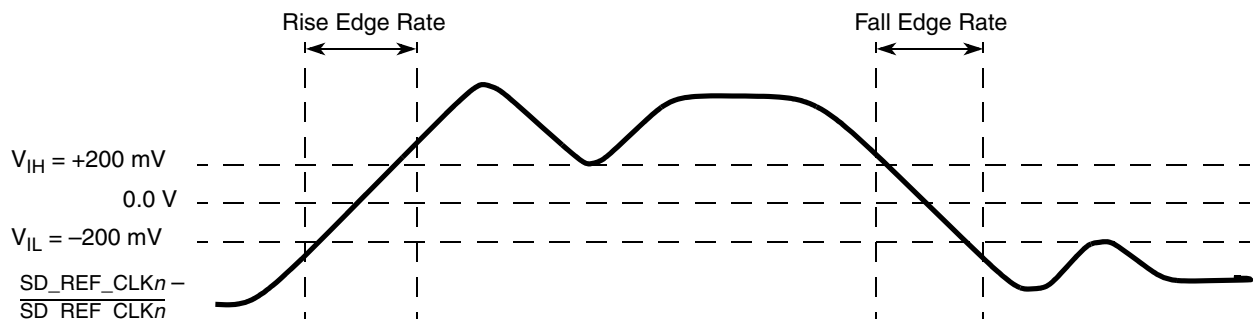

Figure 40. Differential measurement points for rise and fall time
waveform is not referenced to ground. See Figure 40, “Differential measurement points for rise and fall time,” as an example for differential waveform.
- Measured from −200 mV to +200 mV on the differential waveform (derived from SD_REF_CLK \bar{n} minus $\overline{\text{SD_REF_CLK}}_n$). The signal must be monotonic through the measurement region for rise and fall time. The 400 mV measurement window is centered on the differential zero crossing. See Figure 40.